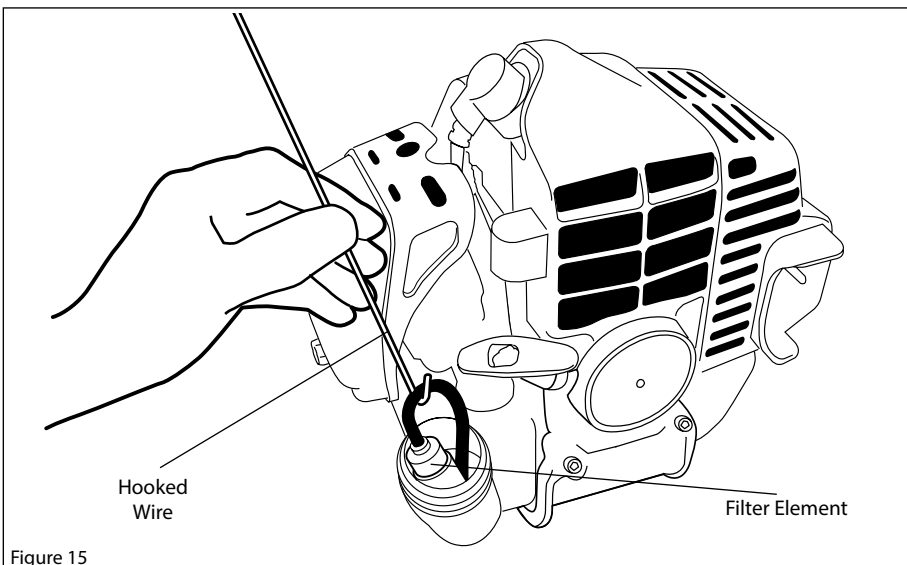

Figure 15
- Extract the fuel filter from inside the fuel tank. See Figure 15. Remove and replace the filter element. Before reinstalling the filter, inspect the condition of the fuel line. If damage or deterioration are noted, the M242 Multipurpose Tool Carrier should be removed from service until it can be inspected by a Shindaiwa-trained service technician.